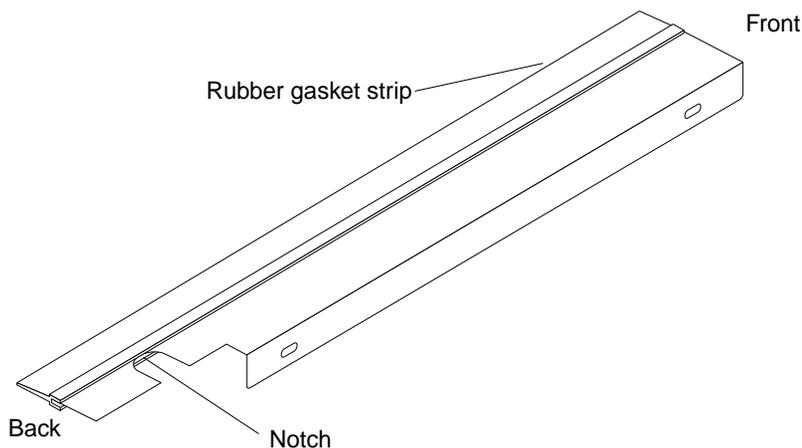

FIGURE 4-9 Side Baffle
1. Identify the side baffle front and back (FIGURE 4-9).